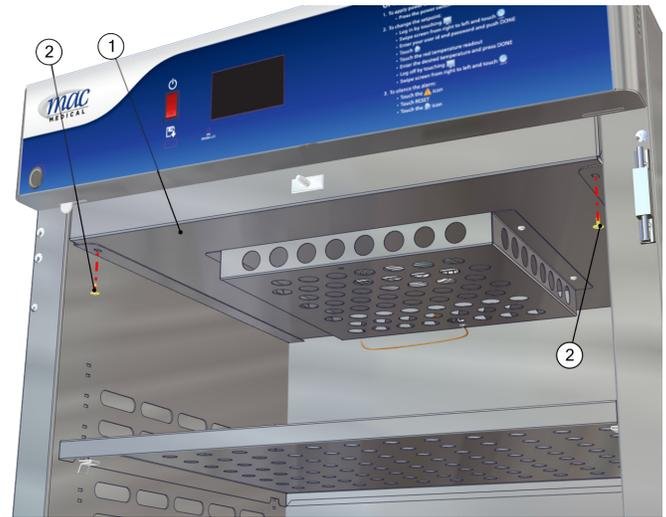

Fig. 11: Location of interior screws - drawer assy
1. Open the cabinet door and remove two 8-32 x 1/2" self tapping screws located at the bottom front of the Drawer Assembly (Fig. 11 - shown in yellow).
Table 2 (Fig. 11)
4. Open the cabinet door and re-insert the two interior 8-32 x 1/2" self tapping screws to secure the header/drawer assembly to the cabinet (Fig. 11).